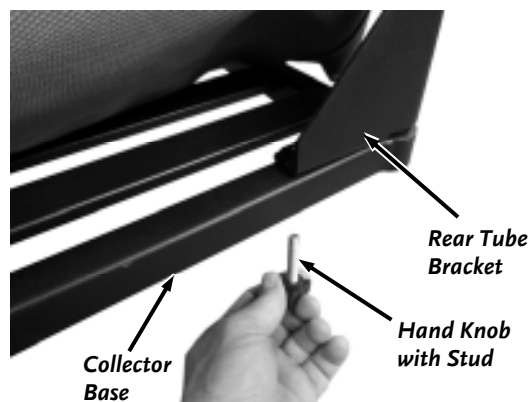

Figure 32
14. Secure the rear Tube Brackets to the Collector Base with one Hand Knob with Stud for each Bracket (**Figure 32**). Do not tighten fully.